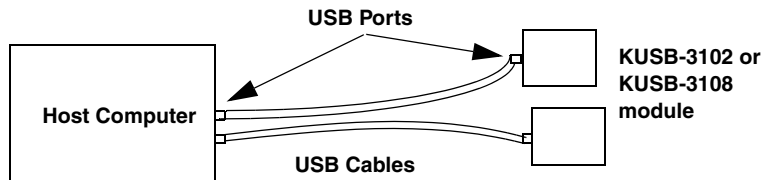

Figure 2: Attaching a KUSB-3102 or KUSB-3108 Module Directly to the Host Computer
2. Attach the other end of the cable to one of the USB ports on the host computer, as shown in Figure 2.